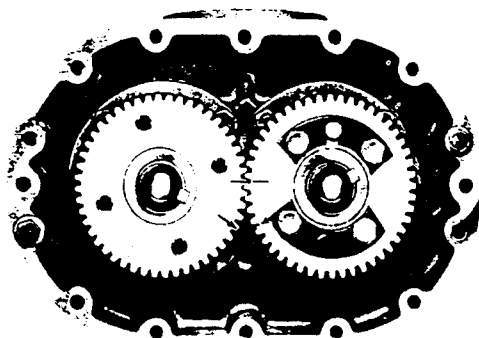
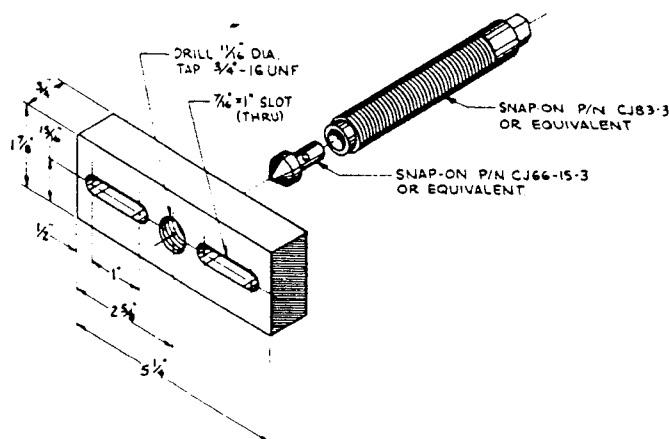

FIGURE 5B
FIGURE 6
9. Rotate drive gear in a clockwise rotation approximately 4 or 5 teeth and mark this location, see Fig. 5B. This gear position is necessary so rotors will clear and not jam. Do not allow the reference marks to change location while the driven gear is being removed.
12. Remove gear end bearing retainer rings (14) exposing bearings.
13. Remove cap screws (26) and free end cover (7) exposing oil slinger assembly.
14. Remove flat head socket screw (69) from oil slinger and gently pry oil slinger (21) from shaft. (On some models.)
15. Remove flat head socket screw (29) and washer (25) from opposite rotor.
16. Use bar pullers (see Fig. 6) and attach to free end plate bores. Using bar pullers, pull free end plate (4) from rotor shafts. (Note: two bar pullers are suggested.)
1. Insert gear keys (24) into shafts.
4. Install driven gear on shaft, insuring that special marks are aligned (See Figure 5B).
5. Install item (36) gear lock washer and (35) gear lock nut.